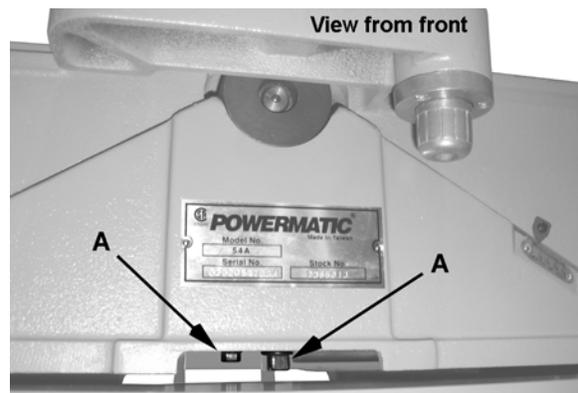

Figure 50
6. Using an 8mm hex wrench, loosen two hex cap screws underneath *fence base casting* (E) that secure the casting to the *table* (F). Remove the *fence base casting* and set aside.
7. Remove four *screws* and *washers* (A) securing the *belt guard* (B). Remove the *belt guard*.
8. Using a 14mm wrench, remove two screws (A, Fig. 50) and *lock washers* that secure the cutterhead bearing housings to the base.